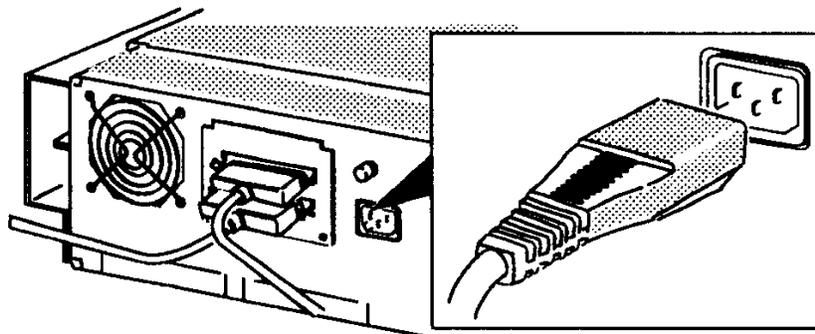

Figure 3-2 Power Connection Location
3. Connect the power cord to the rear of the drive as shown in Figure 3-2 and then switch on the tape drive.